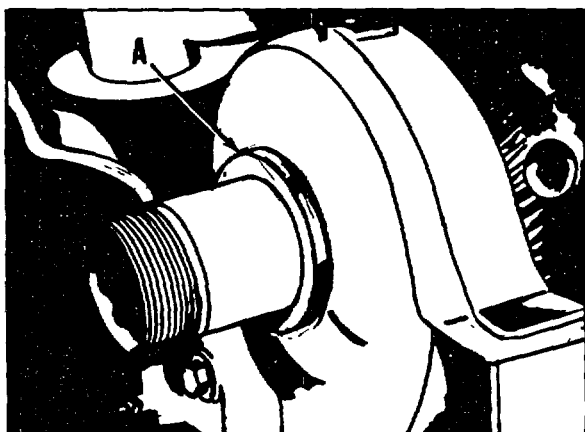

Fig. 38.
12. Remove spindle spacer (A) Fig. 38.
- Replace spacer (A) Fig. 38, with chamfered end toward the outside.